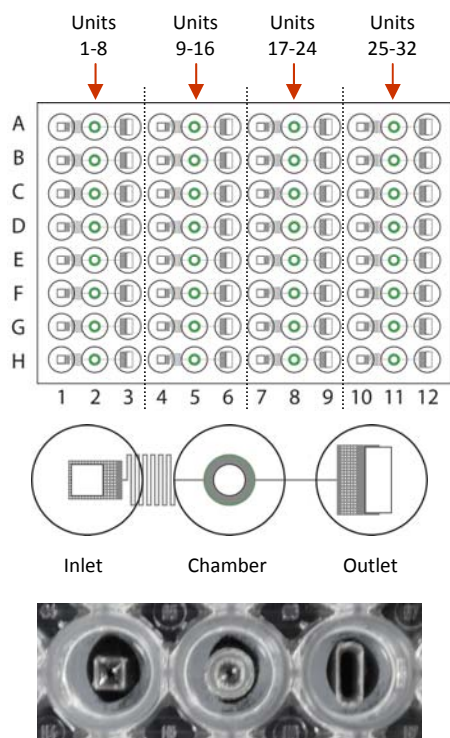

Figure 1. Well Layout
1. The MiCA microfluidic plate contains 32 independent chambers on a 96 well plate. Each chamber has 3 wells: an inlet, a culture chamber, and an outlet (Figure 1). The cutouts at the bottom of the wells are different (square, circle, rectangle) for visual identification. The plate is shipped pre-primed with sterile PBS. Plate performance guaranteed up to the expiration date.